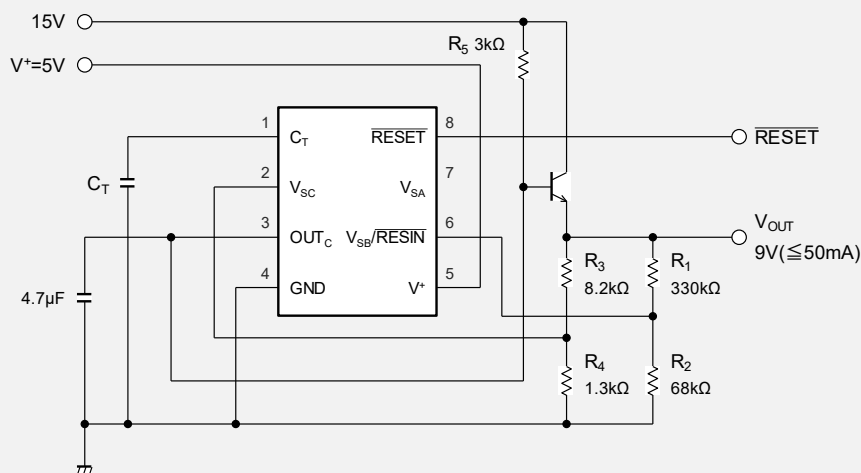

Fig. 11 Reference voltage output and voltage drop monitoring (e.g. 9V reference output, 5V, 9V monitoring)
- The reference voltage VOUT and its detection voltage are calculated as the following formula. In case of resistor value in Fig.11, the reference voltage VOUT is about 9.0V, the detection voltage (VOUT falling) is about 7.1V and the detection voltage (VOUT rising) is about 7.3V